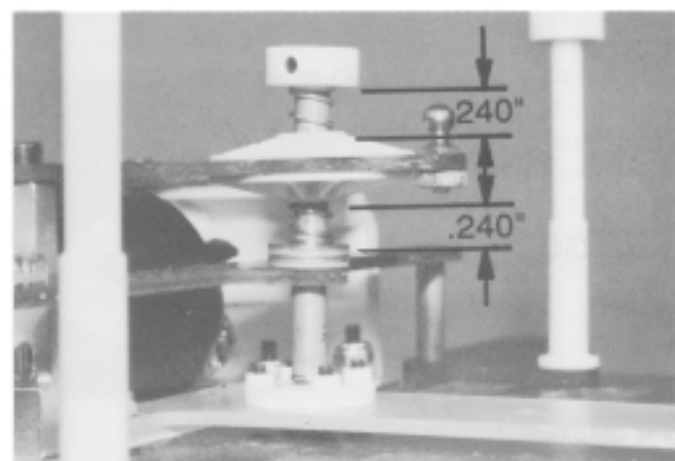

Fig. 37
(6) Measure the spacing between the upper locking collar and the upper plastic dampner washer (Fig. 37). (7) Adjust the collar until the gap is .240". (8) Now measure the gap between the lower collar and the lower plastic dampner washer—it should also be .240". Equal spacing on the top and bottom will help make the car more consistent.